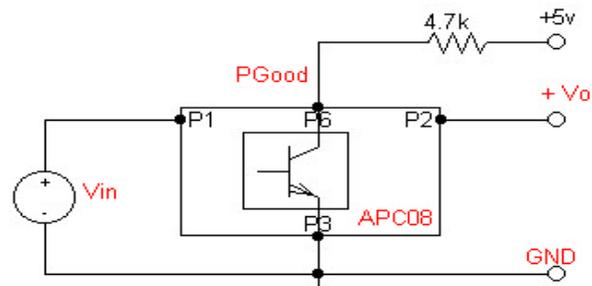

Figure 6. PGGood setup.
7. See Figure 6 for PGood configuration
PG pin provides an output signal indicating the Vout is operational (TTL logic signal). It can sink current up to a max of 5mA and can have a maximum external pull-up voltage of 6V. Please see recommended setup shown on Figure 6.